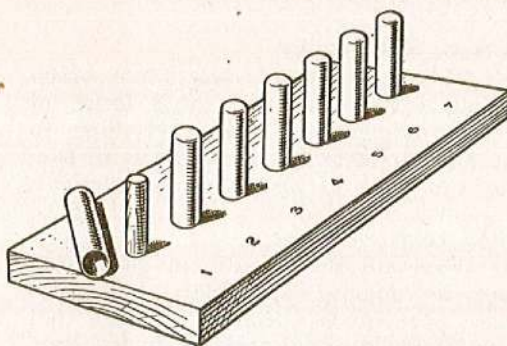

Fig. 13. Stand for rotor pistons
3. Remove each piston in turn and wipe with clean muslin, noting from which bore each piston is removed. It is worthy of note, that by placing the pistons on white paper, excessive discoloration and high spots not otherwise readily discernible, are thrown up. Examine carefully for collapse, wear or pitting of the crowns. After examination each piston should be placed on the piston stand (fig. 13).